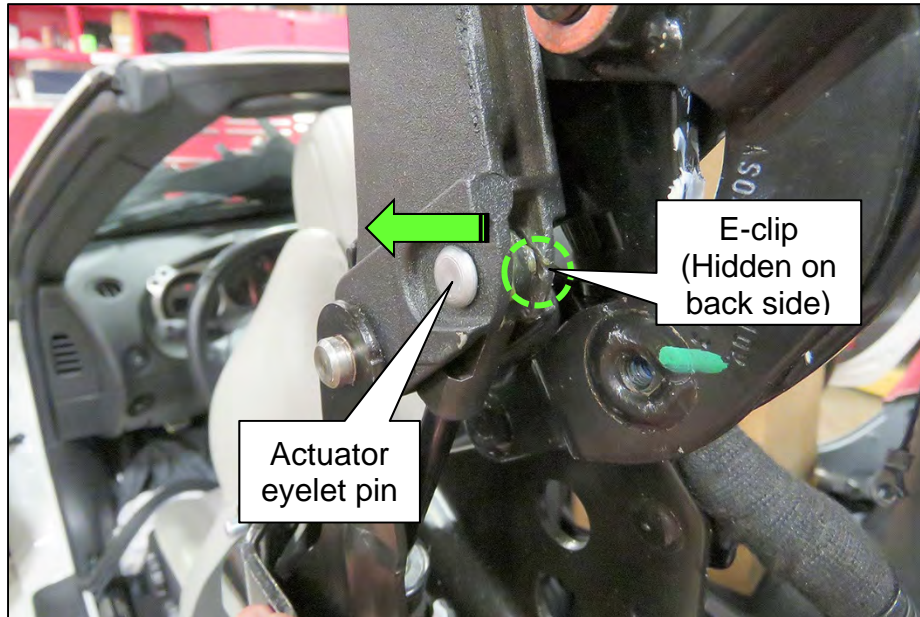

Figure 236
252. Remove the E-clip from the actuator eyelet pin, and then remove the actuator eyelet pin by sliding it out (Figure 236).
- E-clip hidden in Figure 236.